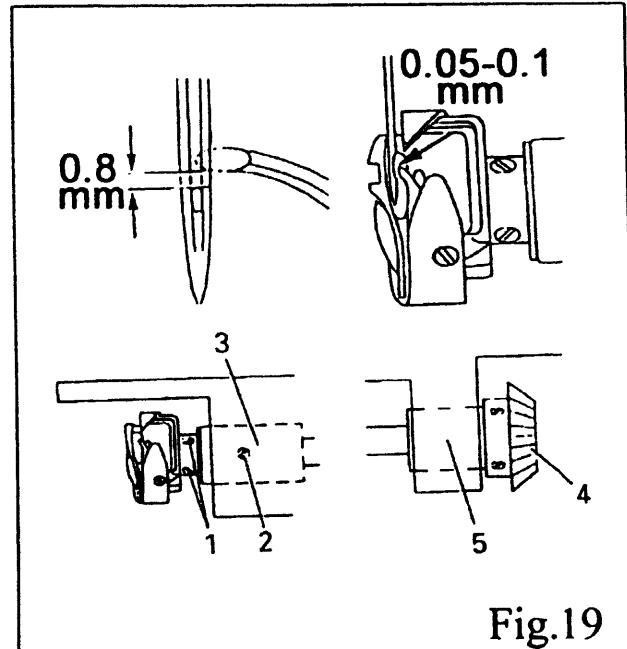

Fig.19
① Adjust the maximum stitch length
② Loosen screw 1 only enough so that the feed lifting cam 2 turns round the shaft.
③ Bring the needle into lower position
④ While retaining this position, first push the eccentricity of the feed lifting cam 2 upwards, observing the above rule when operating the lever.
⑤ Tighten screws 1.
5) Hook Positioner, Grab distance and needle height(Fig19)